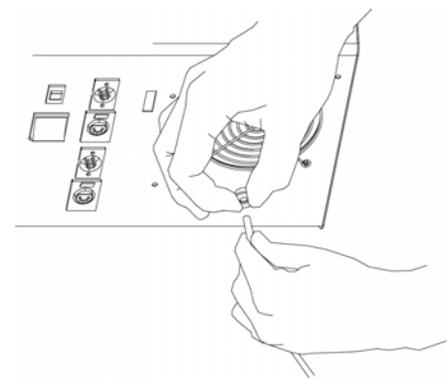

Fig. 5
7. Firmly attach the included tube to the drainage outtake, place the end of the tube to a container (fig 5).